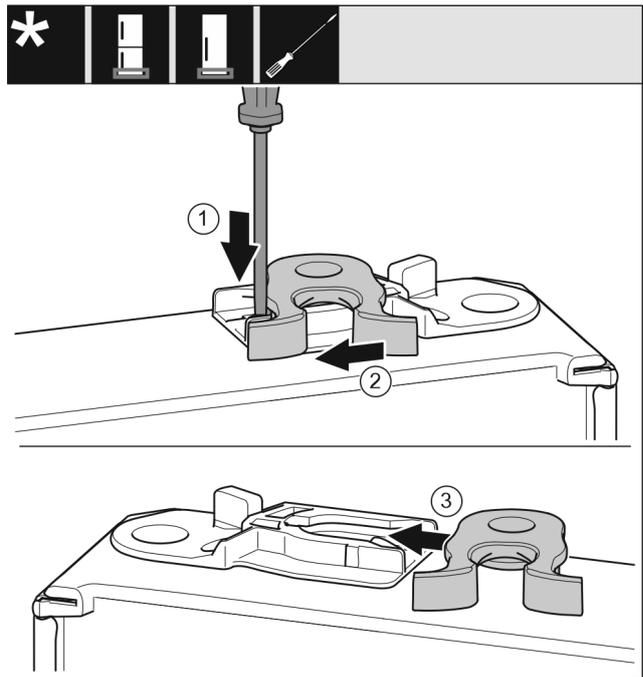

Fig. 16
- Push the lug downwards with a slotted screwdriver. Fig. 16 (1)
- Pull the door latch out of the guide. Fig. 16 (2)
- Push the door latch into the guide on the other side. Fig. 16 (3)